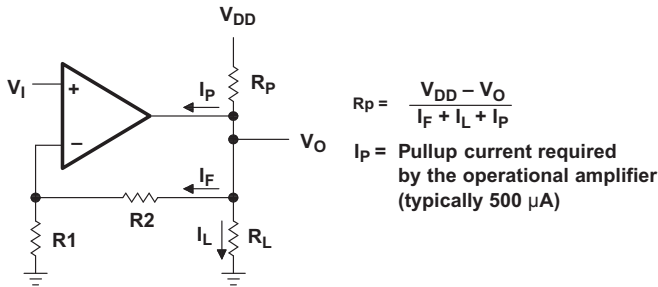

Figure 42. Resistive Pullup to Increase V_{OH}
Although the TLC27M4 and TLC27M9 possess excellent high-level output voltage and current capability, methods for boosting this capability are available, if needed. The simplest method involves the use of a pullup resistor (RP) connected from the output to the positive supply rail (see Figure 42). There are two disadvantages to the use of this circuit. First, the NMOS pulldown transistor N4 (see equivalent schematic) must sink a comparatively large amount of current. In this circuit, N4 behaves like a linear resistor with an on-resistance between approximately 60 Ω and 180 Ω , depending on how hard the operational amplifier input is driven. With very low values of RP, a voltage offset from 0 V at the output occurs. Second, pullup resistor RP acts as a drain load to N4 and the gain of the operational amplifier is reduced at output voltage levels where N5 is not supplying the output current.